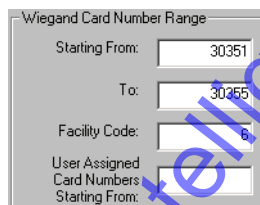

Figure 14-9: Enroll Cards - Wiegand Card Number Range
9. The default for User Assigned Card Numbers is to copy the card number from the Wiegand Card Number Range field. If there is a need for user assigned card numbers that are different from the card number printed on the body of the card, click in the **User Assigned Card Numbers Starting From** field. Enter the user assigned number for the first card in the set. Numbers for the remaining cards will be assigned in ascending, sequential order from the first number. The Wiegand Card Number Range field should appear similar to Figure 14-9.